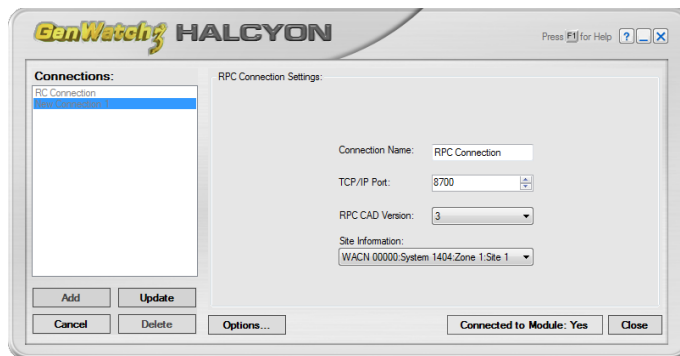

Figure 1.6 – RPC Connection Settings
10. Click **OK**: This will close the *Connection Type* window and show the RPC Connection Settings panel as shown in Figure 1.6.